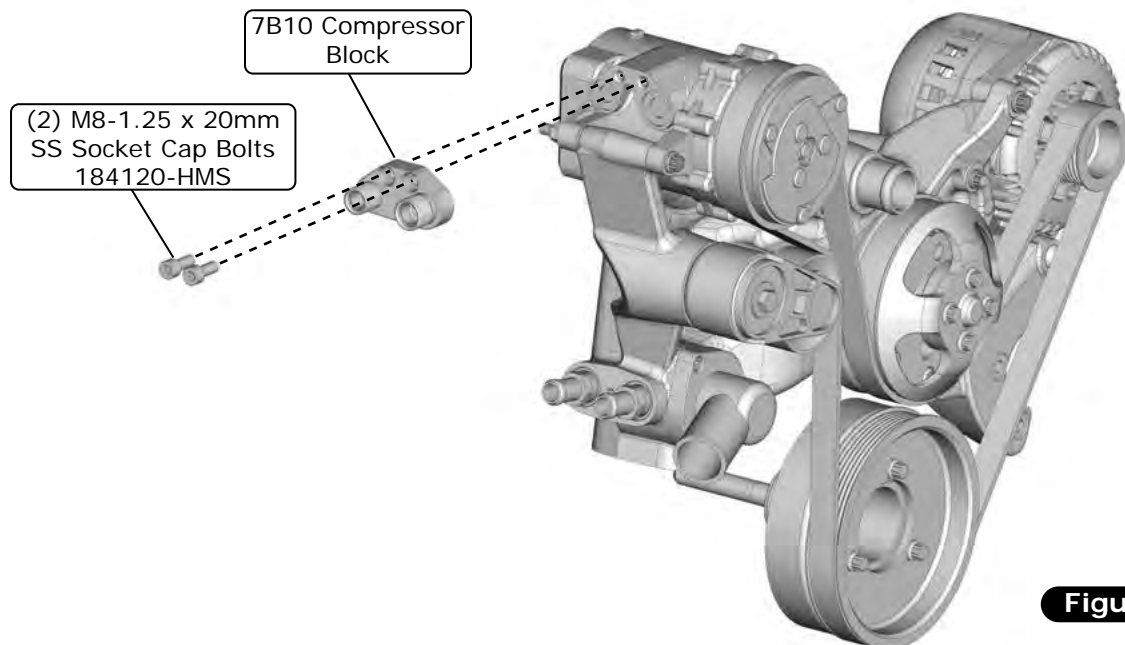

Figure 1
1. Install the block fitting onto the compressor using (2) M8-1.25 x 20mm SS socket cap screws as shown in Figure 1, below. Torque to 15 lb-ft. **NOTE: Keep the ports sealed with caps until the A/C circuit has been completed.**